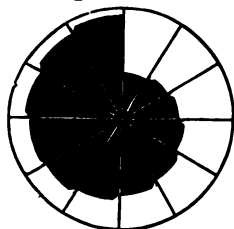

Fig. 3.
**Division of the Hour Snail.**—The length of the lower arm of the rack, from the centre of the stud hole to the centre of the pin, should be equal to the distance between the centre of the stud hole and the centre of the snail. The difference between the radius of the top and the radius of the bottom step of the snail may be obtained by multiplying the distance of twelve teeth of the rack by the length of the lower arm, and dividing the product by the length of the upper arm. Divide the circumference of a circular piece of stout, well-hammered brass plate into 12 parts, and draw radial lines as shown in Fig. 3. Each of these spaces is devoted to a step of the snail. Draw circles representing the top and bottom step. Divide the distance between these two circles into eleven
A steel pointer is fixed in the hole of the lower rack arm, and the star wheel jumped forward twelve teeth by means of the pin in the motion wheel. After each jump, a line is marked on the blank snail with the pointer in the rack arm by moving the rack arm. These twelve lines correspond to the twelve radial lines in Fig. 3. The motion wheel is then turned sufficiently to carry the pin in it free of the star wheel, and the star wheel click fastened back, so as to leave the star wheel and blank snail quite free on their stud. The rack hook is placed in the first tooth of the rack, and while the pointer in the rack arm is pressed on the blank snail, the latter is rotated a little, so that a curve is traced on it. The rack hook is then placed in the second, and afterwards in the succeeding teeth consecutively, and the operation repeated till the twelve curves are marked. There is one advantage in marking off the snail in this way. Should there be any inaccuracy in the division of the teeth of the rack, the steps of the snail are thus varied to suit it.
Clocks striking one at the hour have the hammer tail lifted by a snail on the minute wheel. Although a snail of this kind is not divided into steps, it may be set out on the plan of Fig. 3, the contour of the snail being represented by a curve cutting through the intersection of the circles with the radial lines. If formed in this manner, it is evident the hammer tail will be lifted uniformly throughout the revolution of the minute wheel. Sometimes these snails are wrongly made so as to do nearly the whole of the lifting as the hour approaches, and the extra strain on the minute wheel stops the clock, or causes the motion wheel to slip on the centre arbor.